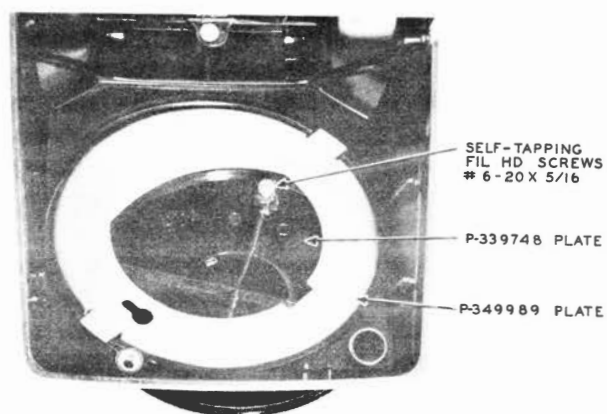
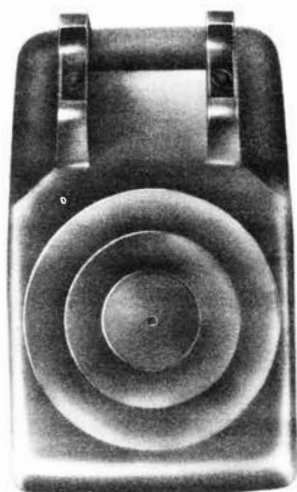
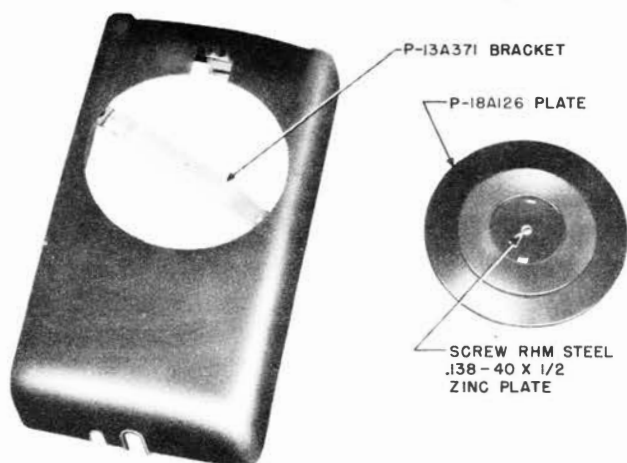

Fig. 27 - 95A Apparatus Blank
Fig. 28 - 500-type Set with 95B Apparatus Blank, Exterior
Fig. 30 - 554-type Housing with 95B Apparatus Blank, Exterior
4.05 Fig. 27 shows the assembly of the 95A apparatus blank in 500- and 501-type desk sets. The 95A apparatus blank can be used only on sets with three-legged dial mountings. Fig. 28 and 29 show front and rear views of the 95B apparatus blank assembly in 500- and 501-type desk sets. Fig. 30 and 31 show assembly of the 95B apparatus blank in the 554- and 556-type sets. Note that bracket position is inverted when used on 554- and 556-type sets.